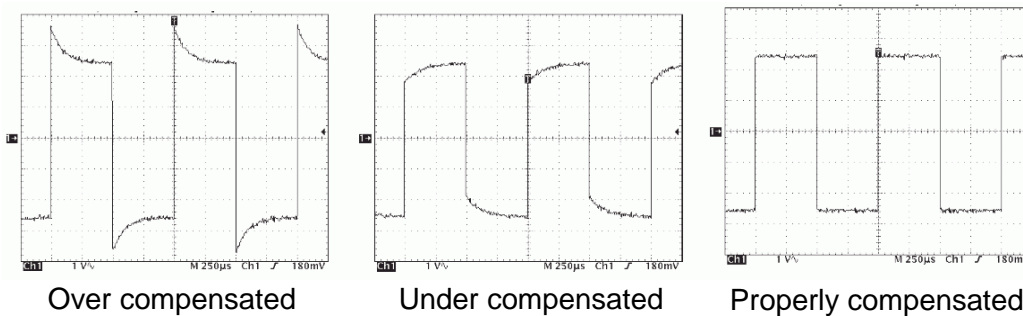

Figure 4: Effects of probe compensation on a square wave
4. Use the probe's adjustment tool to make the square wave have a flat top (see Figure 4).